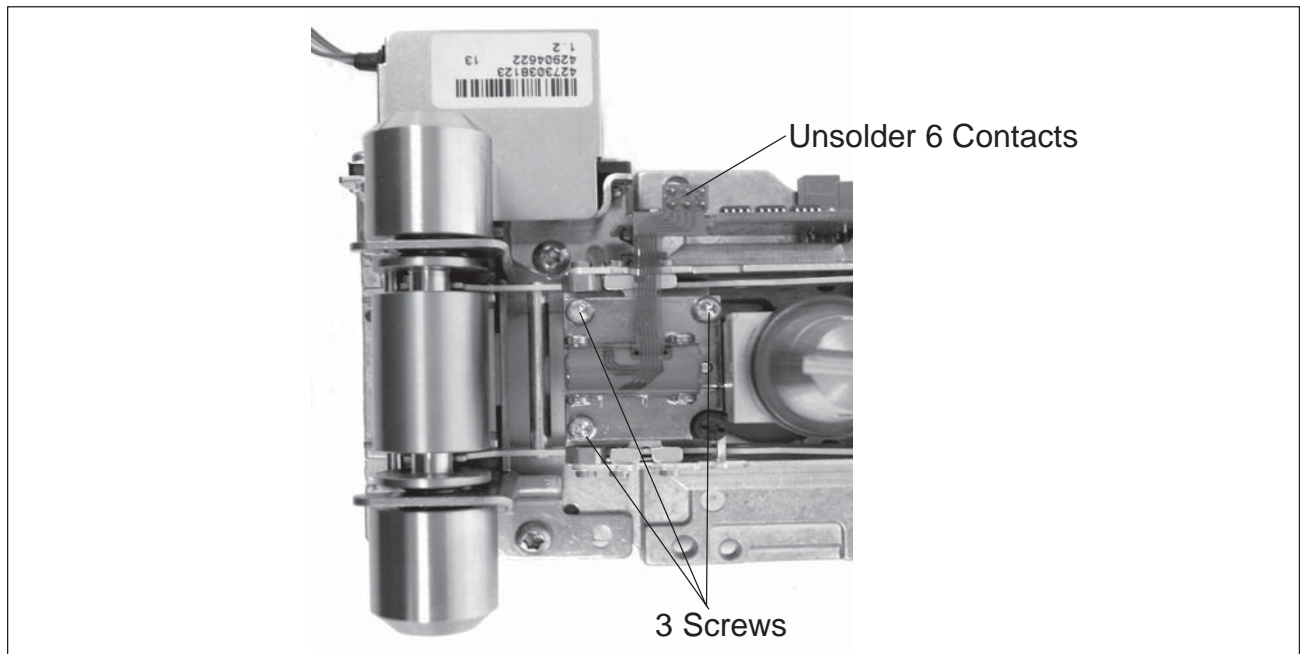

Figure 3-34. Removing Position Sensor Assembly.
3. If the Position Sensor Assembly has to be changed: unsolder Flexible Board , see Figure 3-34.